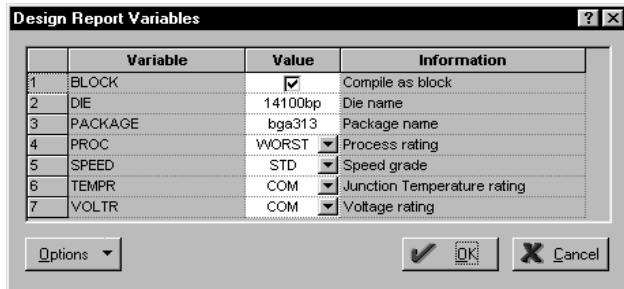

Figure 6-6. Design Report Variables dialog box
This displays the Design Report Variables dialog box, as shown in Figure 6-6.
2. **Check the Block (Block Compile) in the Value column, as shown in Figure 6-6.** Click OK. A complete report of the netlist is displayed, including sequential and total logic utilization, operating conditions, inpad to register, register to register, register to outpad, inpad to outpad, and global signal propagation delays, and logic levels. The software automatically recognizes the global signals from the netlist.